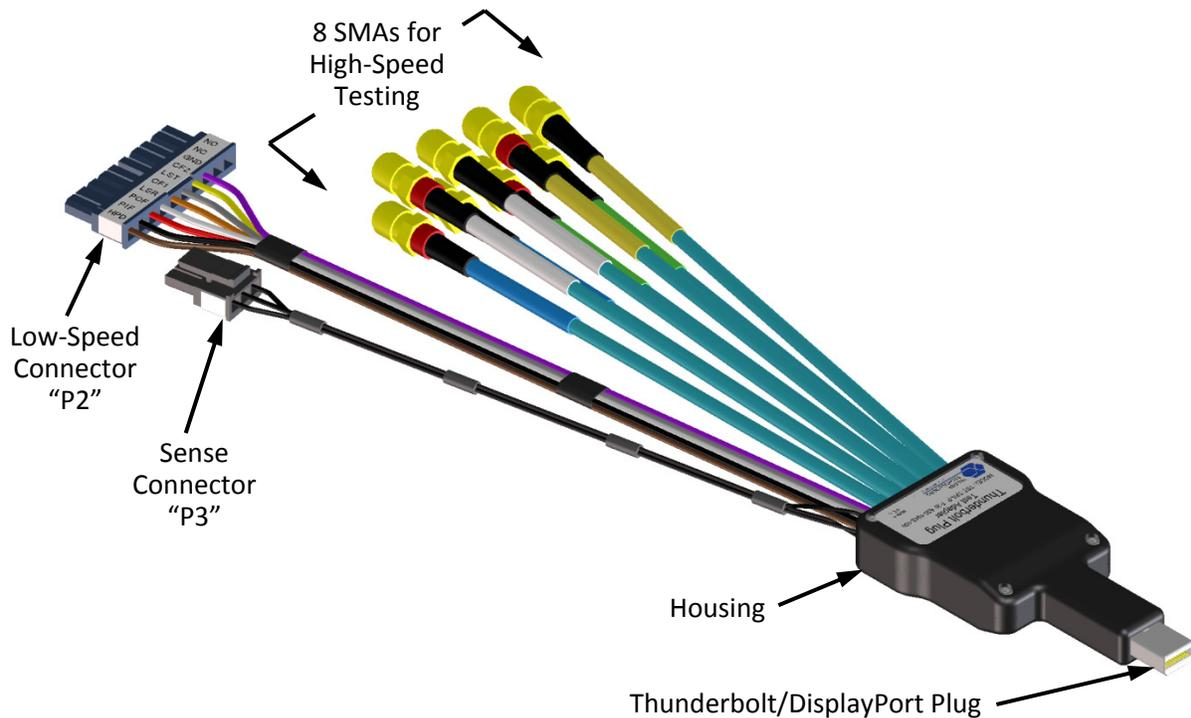

Figure 1. The Thunderbolt Test Adapter (Plug)
This user's guide documents the Thunderbolt Test Adapter (TBT-TPA) and Calibration Module. The two test adapter types, shown in Figures 1 and 2, test Thunderbolt Interface (TB) cables and devices against the Thunderbolt PHY Compliance Test Specification. The Calibration Module, shown on Page 12, is used to zero-out test adapter attributes (using SOLT, with either the 1X-THRU or the 2X-THRU).